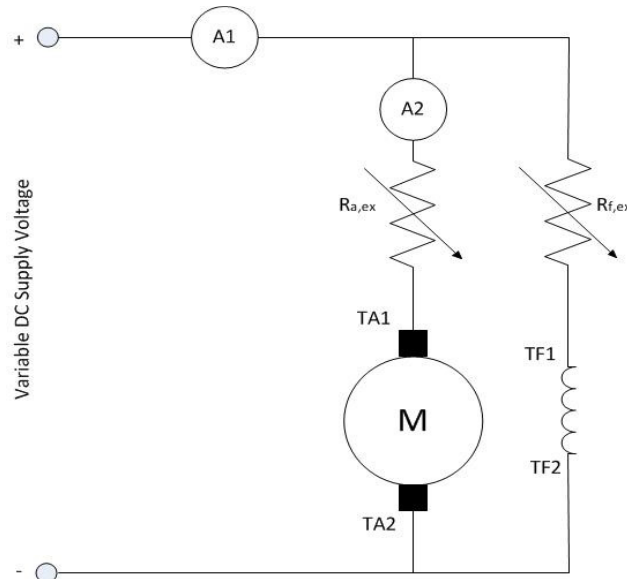

Fig. 1. Circuit Arrangement for the Speed Control of DC Shunt Motor
The circuit arrangement for the experiment “speed control of DC shunt motor” is shown in Fig. 1. Here, TA1 and TA2 are the terminals of armature winding and TF1 and TF2 are the terminals of field winding. Resistances $R_{a,ex}$ and $R_{f,ex}$ are the external resistances connected in series with the armature winding and field winding respectively.
2. Now, connect the circuit diagram as per Fig.1.